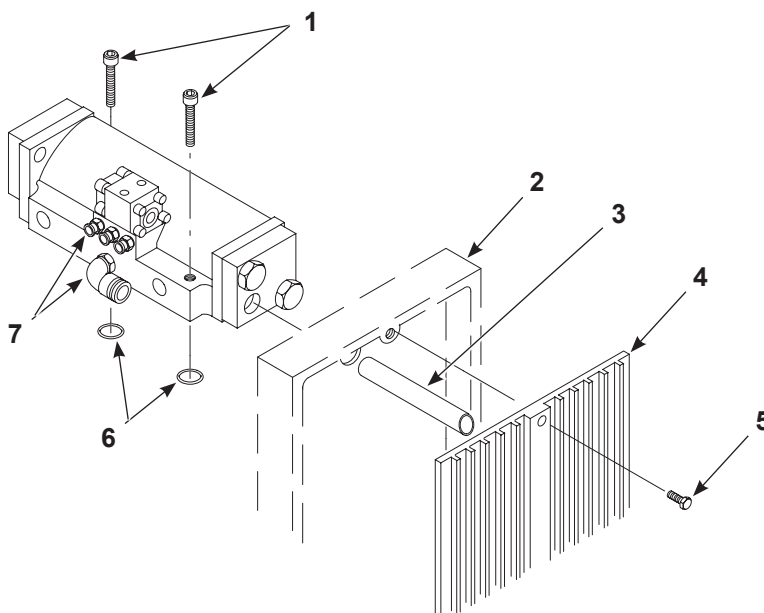

Figure 6-8 Air Valve Replacement
1. See Figure 6-8. Remove the three screws (5) and muffler cover (4) from one of the muffler boxes (2). Slide the exhaust tube (3) out of the air valve.
2. Disconnect the air tubing from the air valve. Remove the tube fittings (7).
3. Use a 1/4-in. hex wrench to remove the socket-head screws (1).
5. Remove the O-rings (6) from the grooves in the upper head. Lubricate and install new O-rings into the grooves.
1. See Figure 6-8. Remove the air valve.